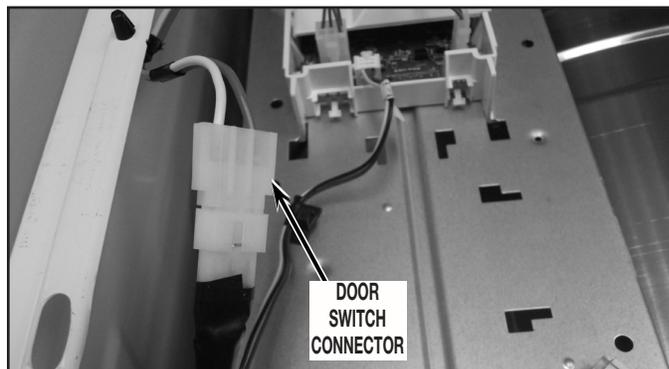

FIGURE 6
10. Disconnect door switch connector. See *Figure 6*.